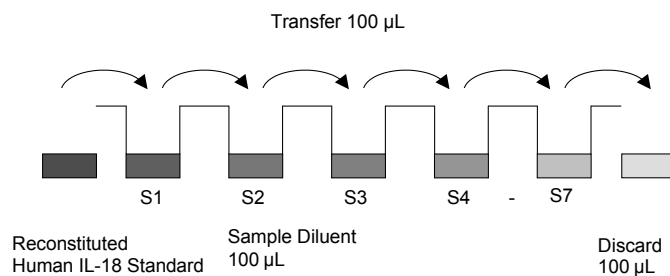

Fig. 1 Dilute standards - microwell plate
2. Add 100 μL of Sample Diluent in duplicate to all standard wells. Pipette 100 μL of reconstituted standard (see "Preparation of standard" on page 2), (concentration = 10,000 pg/mL) in duplicate into well A1 and A2. Mix the contents of wells A1 and A2 by repeated aspiration and ejection (concentration of standard 1, S1 = 5000 pg/mL), and transfer 100 μL to wells B1 and B2, respectively (see Figure 1). Take care not to scratch the surface of the microwells. Continue this procedure 5 times, creating two serially diluted columns of human IL-18 standard dilutions ranging from 5000 to 78 pg/mL. Discard 100 μL from the last microwells (G1, G2). Final volume in all wells is 100 μL .